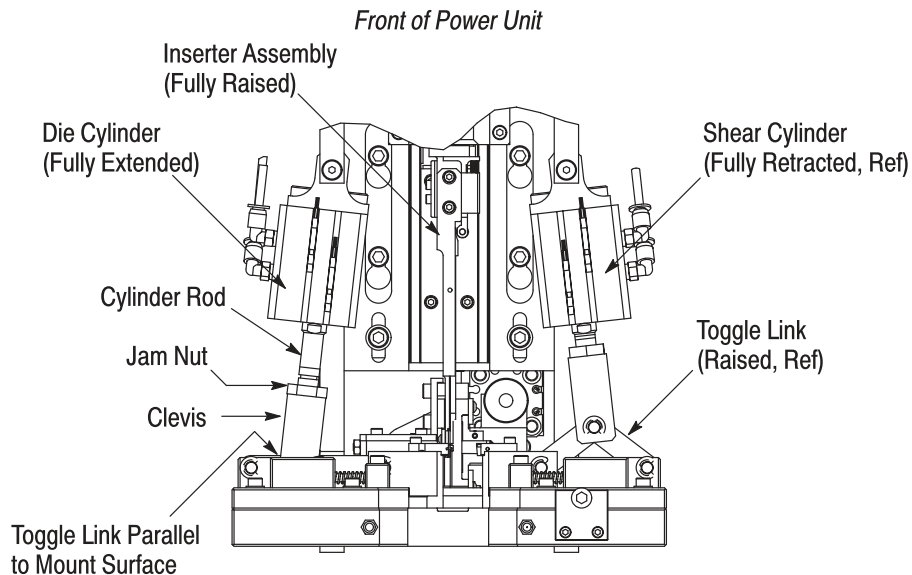

Figure 16
5.5. Die Cylinder Clevis Adjustment (See Figure 16)
5.6. Shear Cylinder Clevis Adjustment (See Figure 16)